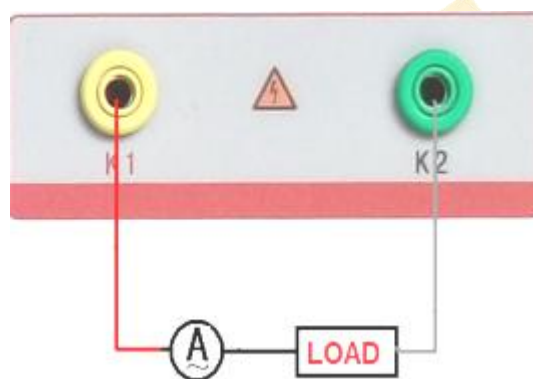

Figure 39
The connection mode of Current Calibration is as shown in Figure39, Voltage setting value is slightly higher than the Current setting value (A) \* Load (Ω).After the completion of the setting, turn on the output, and select "Test" item. When the output voltage or current of the equipment reaches the setting value, it will be held for a period of time. After the completion of the test, click controllers,end of the test.